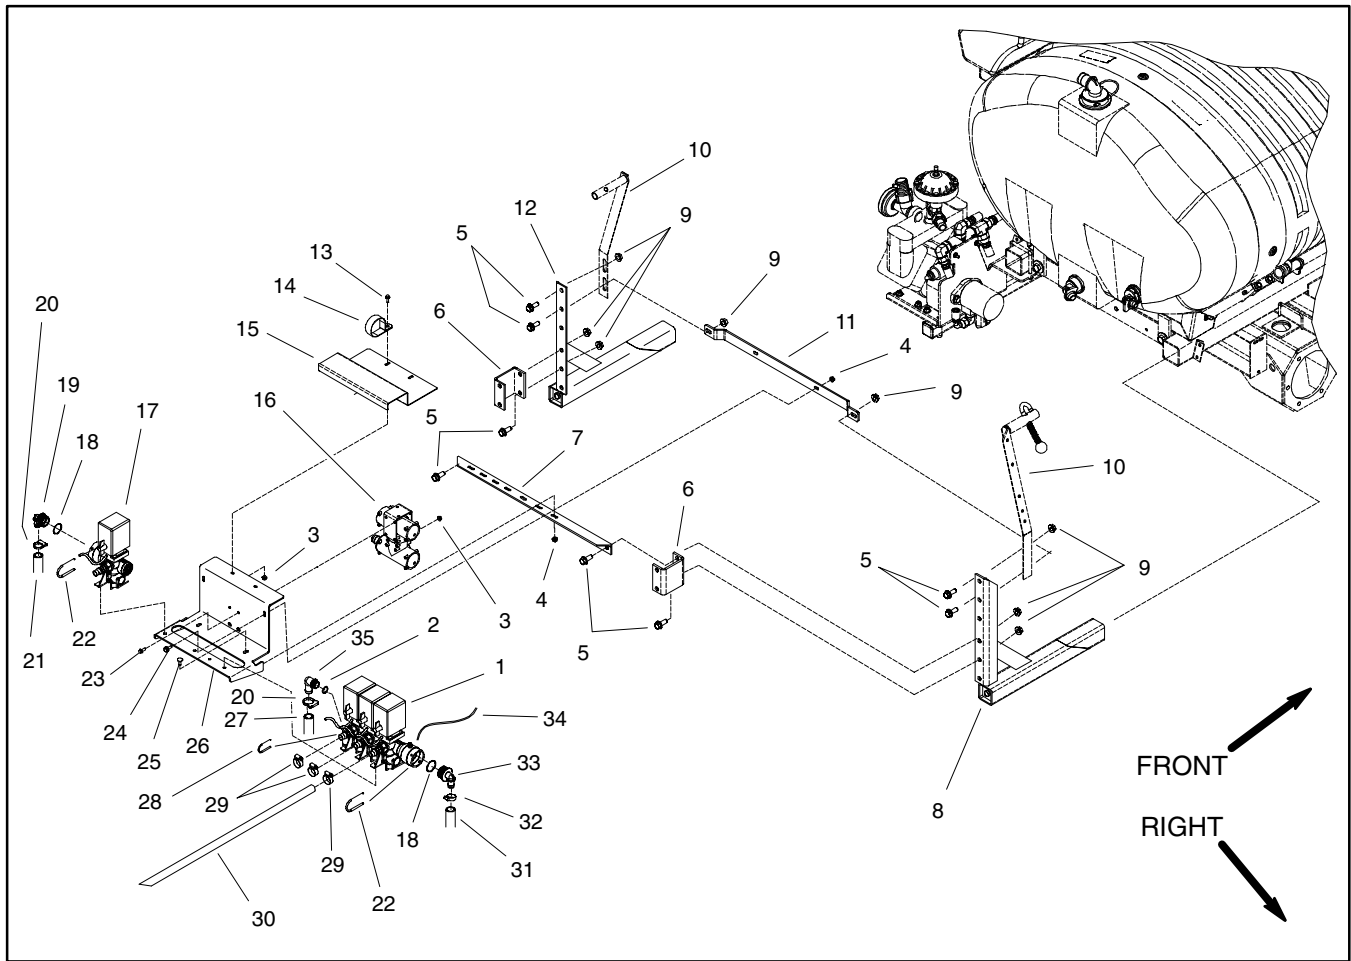

Figure 18
### Removal (Fig. 18)
6. Remove additional spray control components as required using Figure 18 as a guide. Discard all removed o-rings and gaskets.
**Assembly (Fig. 18)**
1. Install spray control components using Figure 18 as a guide. Replace all removed o-rings and gaskets.